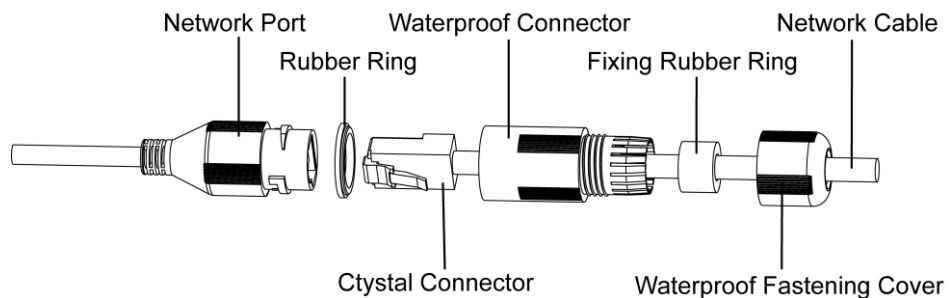

Figure 2-4
**Step 6** (Optional) Install waterproof connector for network port, which is shown in Figure 2-4.